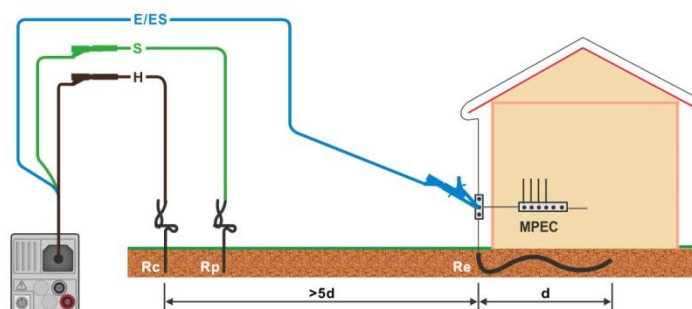
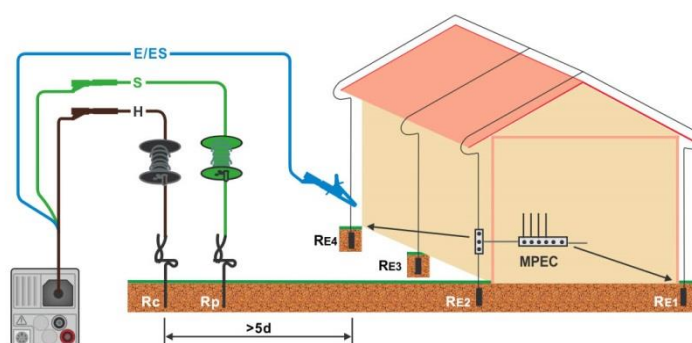

Figure 7.57: Resistance to earth, measurement of main installation earthing
Figure 7.58: Resistance to earth, measurement of a lightning protection system
- › Connect test leads to the object under test, see **Figure 7.57** and **Figure 7.58**.